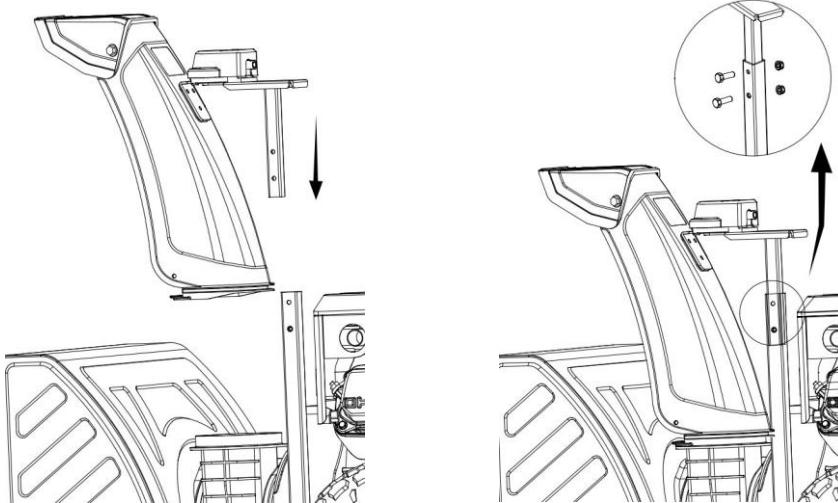

Figure 3
1. Insert Lower Discharge Chute/Support Tube Assembly into the designated Chute opening for the Lower Discharge Chute, while inserting the Support Tube into the designated base of the Frame. (See Figure 3).
2. Secure Support Tube to base with (2) Screws and nuts provided.